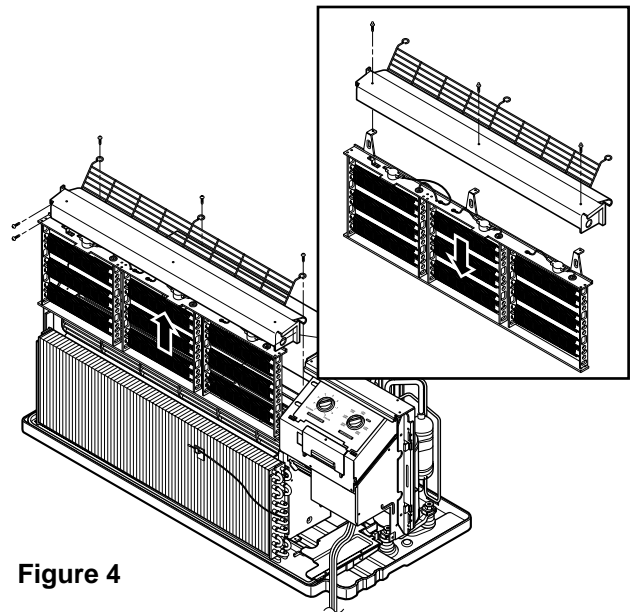

Figure 4
3. Remove the 3 screws which fasten the net steel. (See Fig. 4)
4. Remove the 3 screws which fasten the electric heater assembly. (Electric heater model only) (See Fig.4).